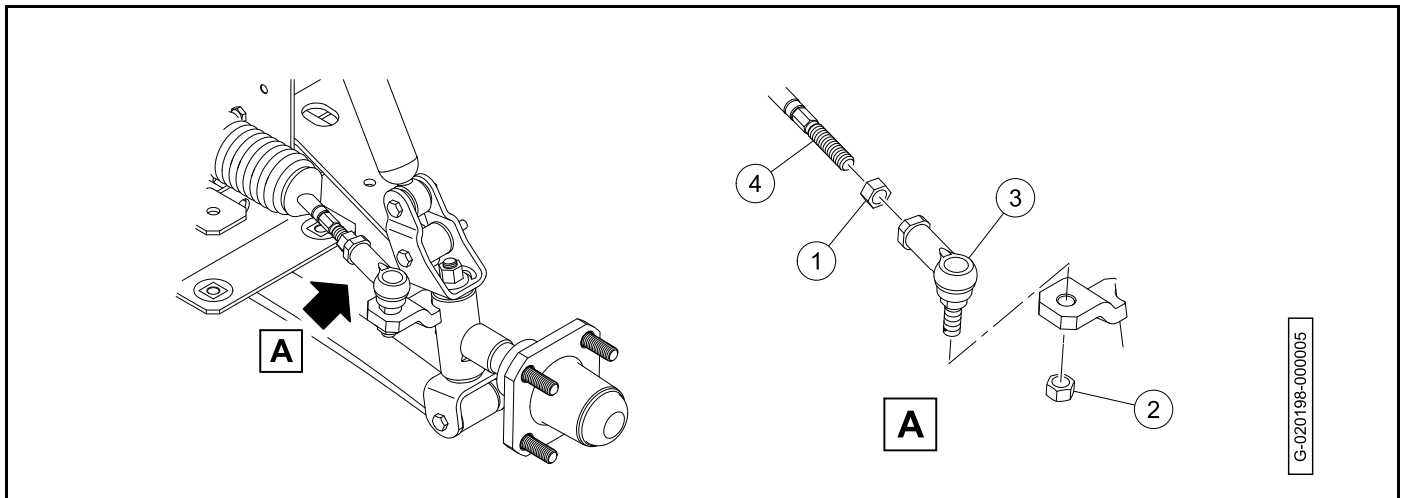

Figure 7-22
3. Loosen the jam nut (1) (**Figure 7-22**).